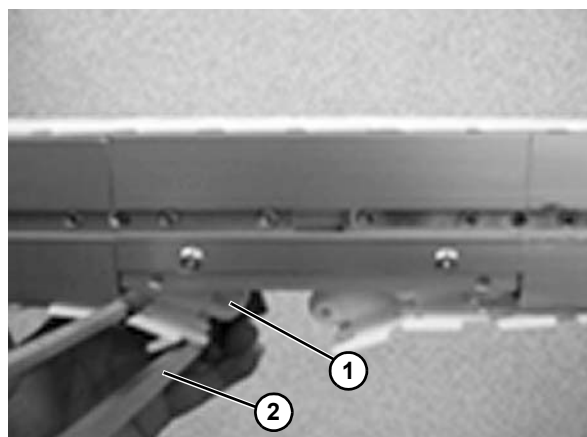

Figure 59
3. Clamp the chain (**Figure 59, item 1**) to the beam profile. Use the FlexMove chain tool (**Figure 59, item 2**) to remove a steel pin from the chain, so that two links are separated.